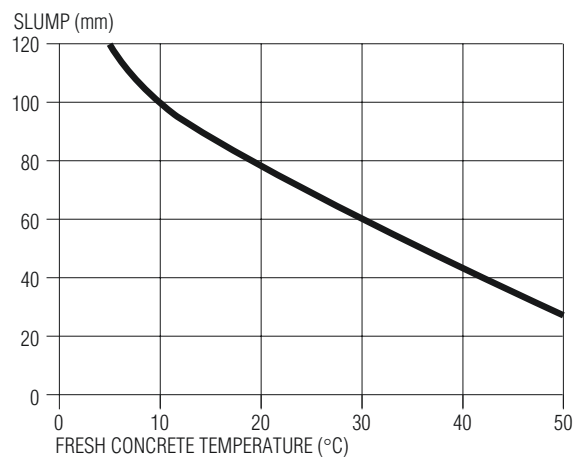

Figure 3: Decrease in workability of fresh concrete (as measured by slump), made with constant water content, as temperature increases
- **Workability and slump** Higher temperatures reduce the workability (or slump) of the concrete more rapidly with time **Figure 3**. Adding more water to improve the workability of the mix decreases the strength and increases the permeability, and ultimately affects the durability of the concrete.